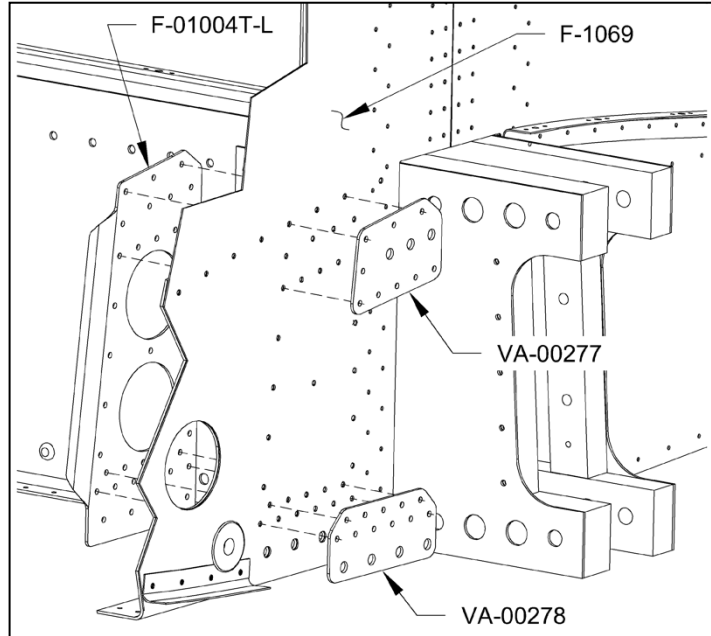

FIGURE 10: TOP AND BOTTOM DRILL TEMPLATES
Step 30: Cleco the side plate doubler back in place along with the VA-00277 and VA-00278 Top and Bottom Drill Templates as shown in Figure 10. (For correct orientation, notice on the bottom drill template that the aft $\text{\O}.$ 250 hole is closer to the edge than the forward $\text{\O}.$ 250 hole.) Cleco all the holes except the holes that correspond to the flanges of the landing gear mount (the holes within the $\text{\O}.$ 250 holes in the drill templates).